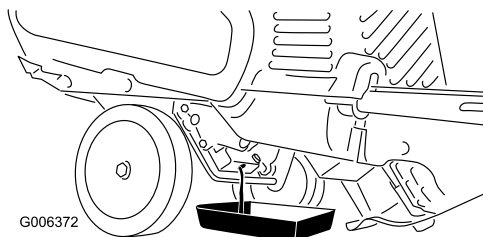

Figure 26
3. Place an oil-drain pan under the oil-drain plug, remove the oil-drain plug, and tip the machine backward and drain the used oil in the pan (Figure 26).